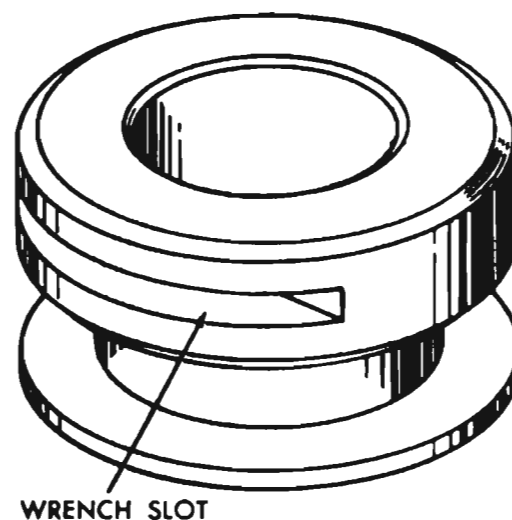
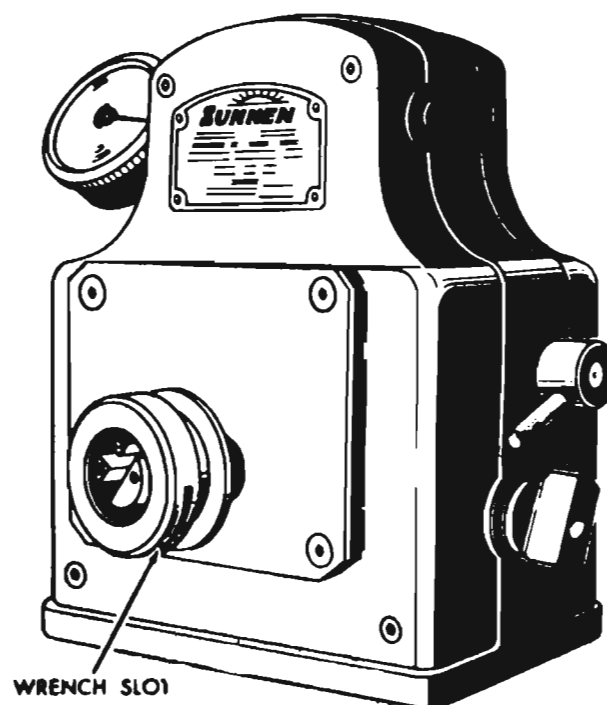

FIG. 7
FIG. 8
4. Place calibrator ring (Fig. 7) flat against face plate on gage as shown in Fig. 8 with wrench slot at bottom and directly under centralizer point.